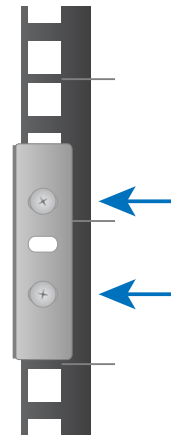

Figure 2.1g
8. Secure the rear rail extension to your rack use two of the included M5 pan head screws as seen in **Figure 2.1g**.